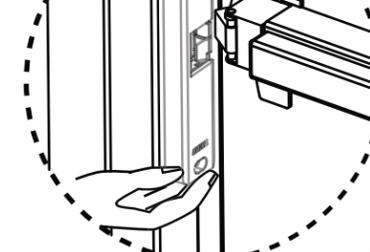

Figure 3
3. When you are confident with the position of the 4800F, mark two perpendicular edges of the 4801 on the frame See Figure 3